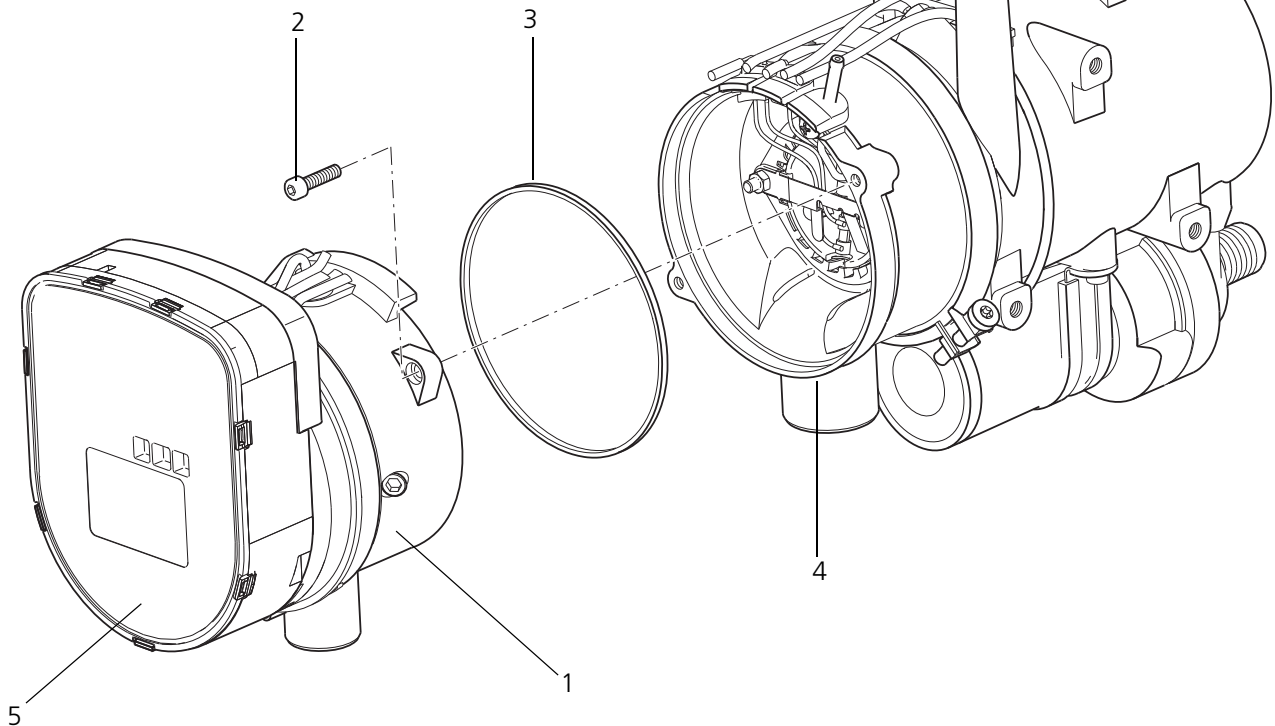

Figure 27: Replacing the combustion air fan
2. Remove the screws (2, Fig. 27).
3. Pull the combustion air fan (1) off the burner head (4) and remove together with the shaped sealing ring (3).
NOTE: Insert the shaped seal (3, Fig. 27) correctly and grease it (e.g. with Vaseline). Take care not to squash it.